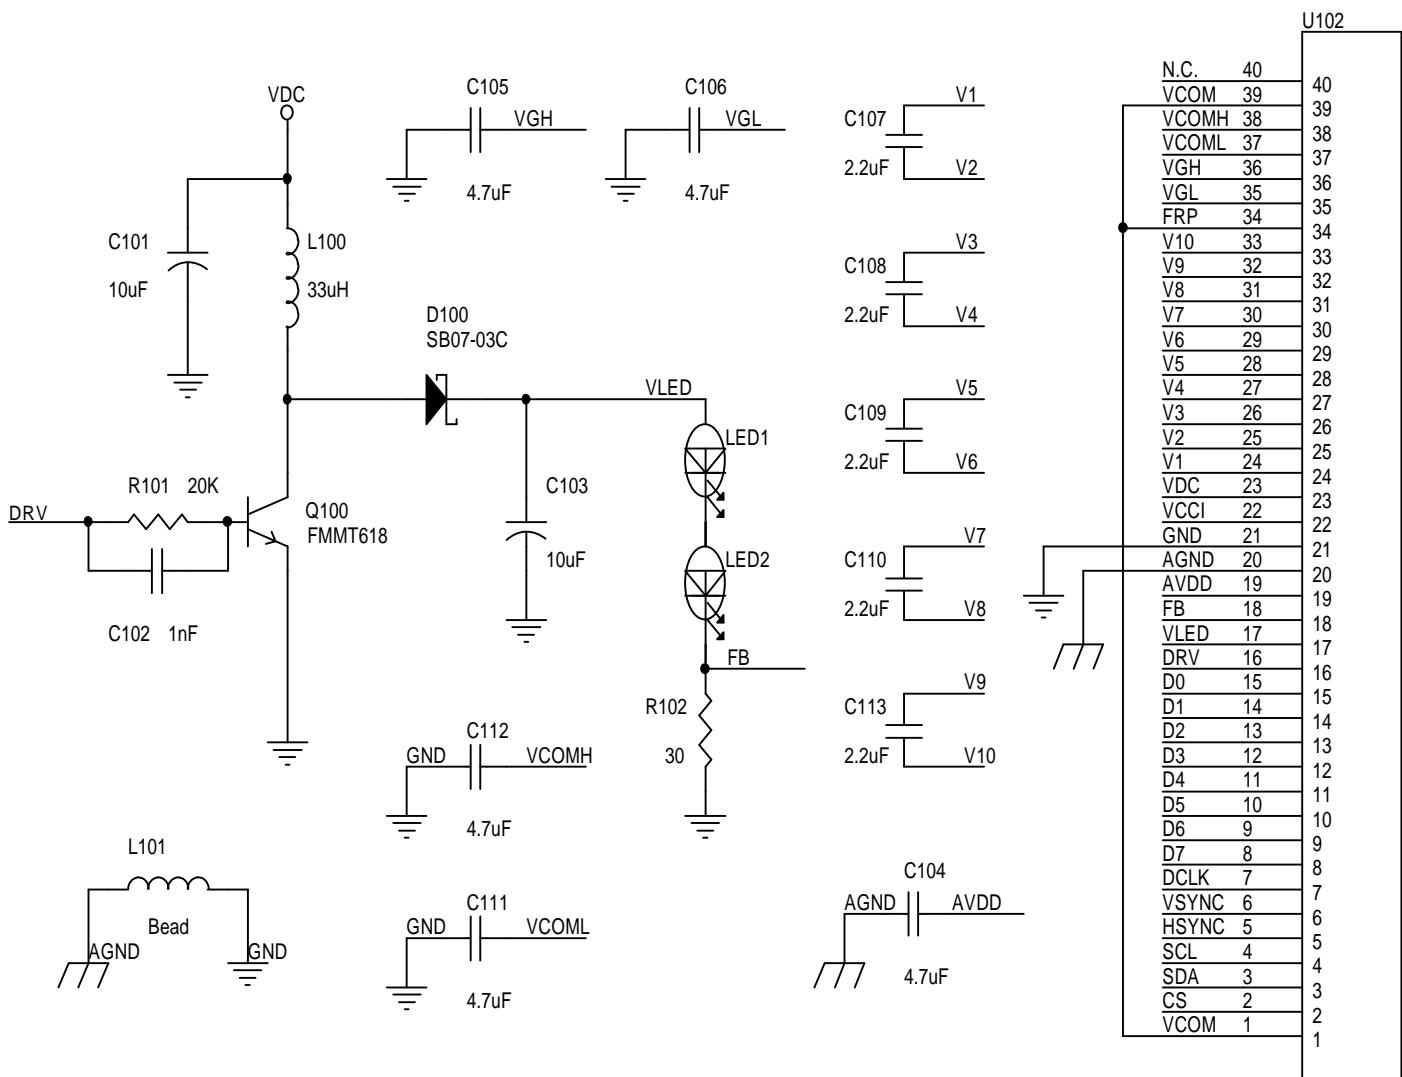

Fig.12 Typical Application Circuit
Integrated driver IC provides build-in LED booster controller, DC-DC charge pump, and Vcom driver. See Fig. 12 for the application circuit.
According to Fig. 12, the L100, Q100, D100, and C103 together form the LED boost converter. The converter with 0.6V feedback (FB) and R102 provide a constant 20mA current for LED backlight unit. The boost converter switching signal DRV is generated base on divided frequency of DCLK. Therefore, the DCLK input is required for LED driver operation, and the absent of DCLK signal during normal operation will set the driver IC into standby mode. A low ESR capacitor for C103 is recommended in order to reduce voltage ripple of VLED. The build-in LED boost controller is default active, and it is able to be turned off by setting the register SHDB1 to low. The LED booster circuit may cause the wave like phenomenon. In order to reduce the phenomenon, AGND and DGND (system GND) and LED booster circuit GND must be separated.